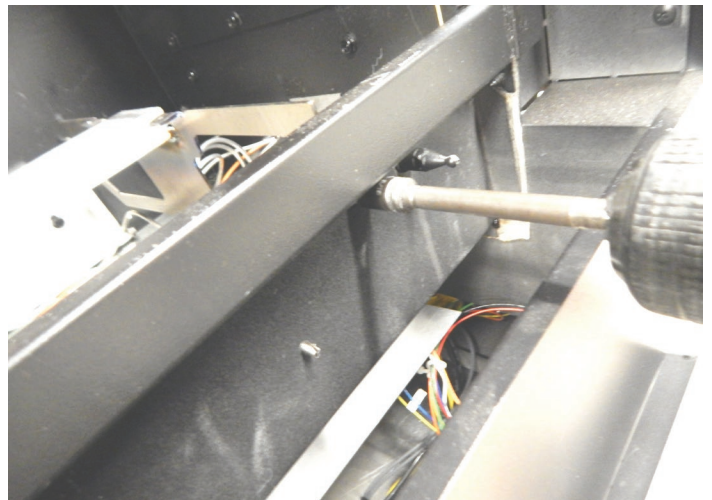
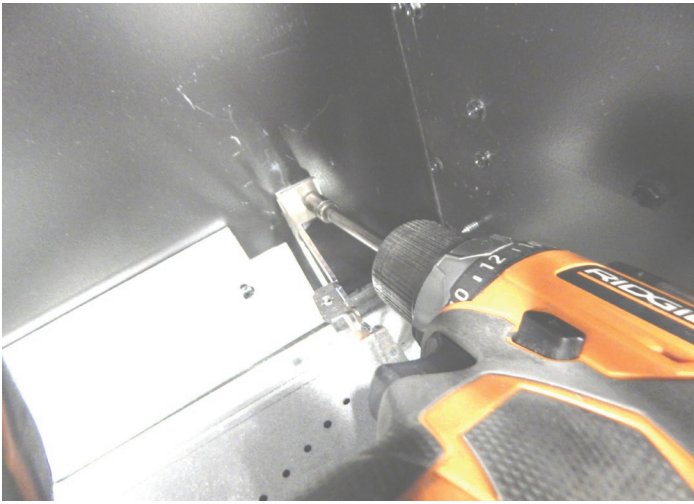

Figure 3
Figure 4
10. To change the burner orifice, remove (4) 5/16" Hex screws that secure the outside burner brackets. Each end bracket is secured with (2) screws. **See Figure 3** for the location of the front screw, and **Figure 4** for the location of the rear screw.